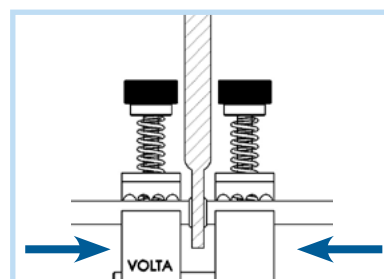

Fig. 14
6. Allow the pliers to close so that the belt ends are in firm contact with the welder, until belt edges melt into a 0.5 ÷ 1.0 mm crown (Fig 14).